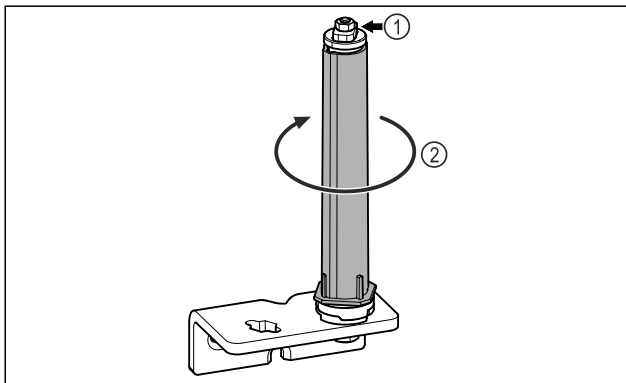

Fig. 23
- ▶ Do not disassemble the door locking system *Fig. 23 (1)*.
- ▶ Turn the locking system *Fig. 23 (2)* until it clicks.